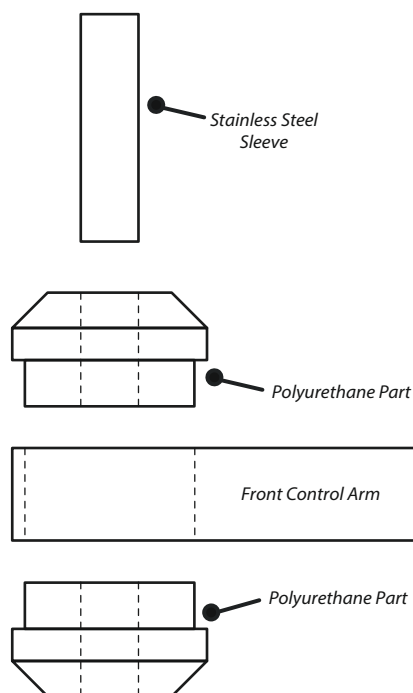

Figure 1
3. Push the polyurethane part into the bore of the arm so that the lip section sits on top of the arm. Push another polyurethane part into the bore from the opposite side as shown in figure 1.